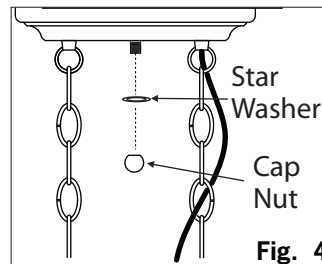

Fig. 4
4. Secure the canopy in place and tighten with the star washer and cap nut. (See Fig.4)